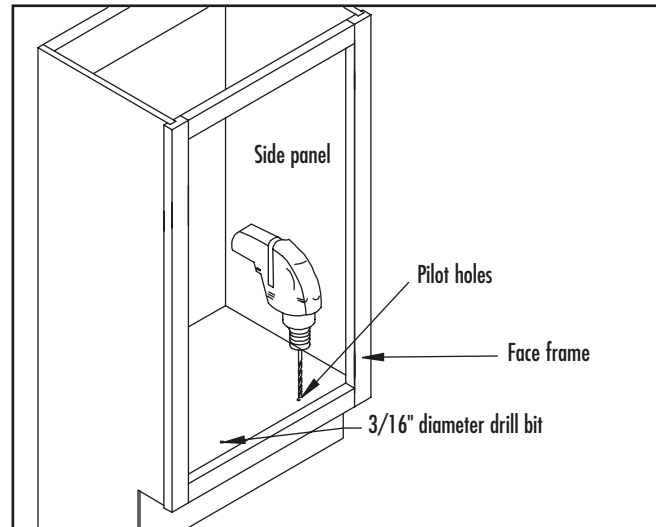

Figure 30
- Measure 1" from front of cabinet bottom panel. Pre-drill into the furniture rail with a  $\frac{3}{16}$ " drill bit. Be careful NOT to drill too far into the furniture rail (Figure 30).